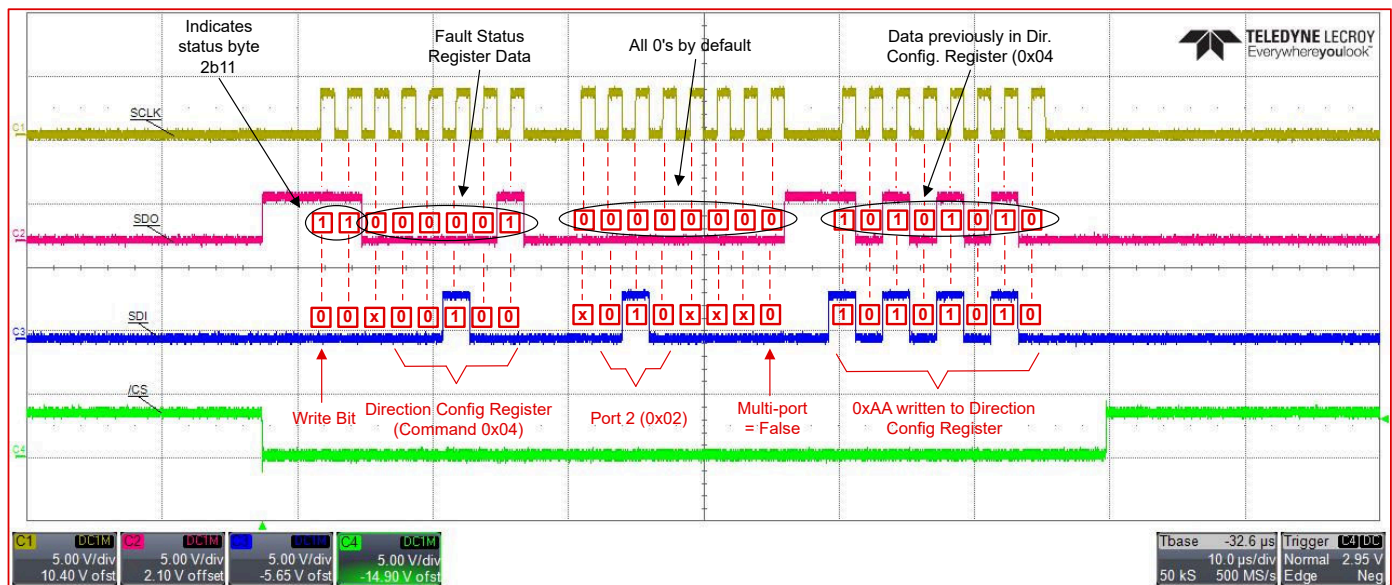

Figure 8-2. SPI Waveform Example
The TXE81XX devices use a 24-bit SPI word format that can read serial data in (SDI) and output serial data out (SDO) at the same time. This is an example of writing to the direction configuration register at address 0x0400 in the register map. 16 bits of status is sent out on SDO first. The first two bits are both 1. The next 6 bits are bit 5 to 0 of the Fault Status Register. The “1” in the LSB of the Fault Status Register indicates that a Power-On Reset (POR) has occurred. The last 8 bits of the status are all 0's. The next 8 bits is the previously written data inside the direction configuration register. The 24-bits on SDI are the following. First bit is the read/write bit. A read bit = 1 while a write bit = 0. In this example a write bit is sent. The next 2 bits are “don't cares” marked by an “x.” The next 5 bits represent the feature address, in this example the direction configuration register is selected to be written to. Port selection is determined by the next upper nibble. In this case, port 2 is selected by b010. Multi-port is given false since the LSB of byte 2 is “0.” Data 0xAA is written to the direction configuration register in the final byte. During this time, 24 clock cycles have been sent on SCLK, sampling on each rising edge. Chip Select (CS) is LOW for the entire 24-bit transaction. Figure 8-2 provides the waveform for the above example.